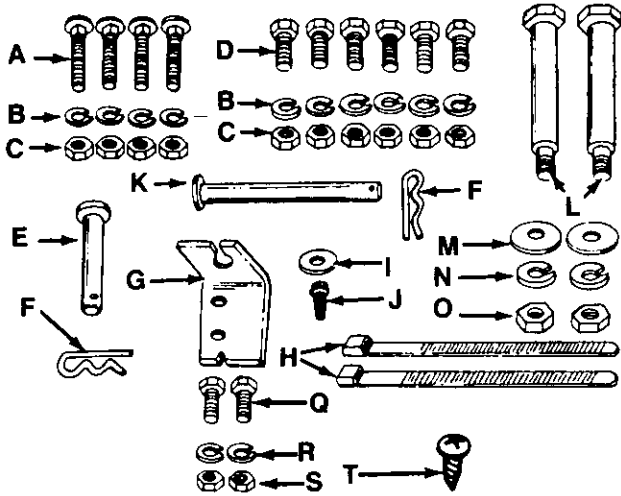

FIGURE 1.
- (1) Phillips Screwdriver
**Contents of Hardware Pack: (See Figure 1)**
- A (4) Carriage Bolts 5/16-18 x 1 3/4" Long
- B (10) Lock Washers 5/16" I.D.
- C (10) Hex Nuts 5/16-18 Thread
- D (6) Hex Bolts 5/16-18 x 3/4" Long
- E (1) Clevis Pin 1/2" x 2 1/2" Long
- F (2) Hairpin Clips
- G (1) Clutch Cable Support Bracket\*
- H (2) Cable Ties
- J (1) Hex Washer Head Self-Tapping Screw 1/2" Long\*
- K (1) Clevis Pin 3/8" x 2 1/2" Long